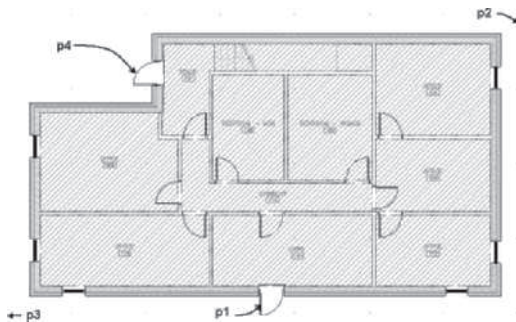

FIGURE 11.100 Creating spaces for level 1
Select object to tag: *(Select the door at p1 as shown in Figure 11.100.)*
Select objects to tag: (Create a crossing selection from points p2 to p3 as shown in Figure 11.100.)
(The tags of the doors located at p1 and p4 of Figure 11.100 indicate Space not found. The **Door Tag - Project Based** tag extracts space information to number the door. Since the door swing is not over a space, the tag cannot find a space to associate the door number. The Property Data Location grips of the doors will be adjusted later in this tutorial to tag the doors.)
42. Double-click to open the **Floor 1** drawing in the Constructs tab of the Project Navigator. Refer to step 37 and drag the Property Data Location grip of each exterior door onto the interior space at **p1** and **p4** as shown in Figure 11.100. Save and close the drawing.